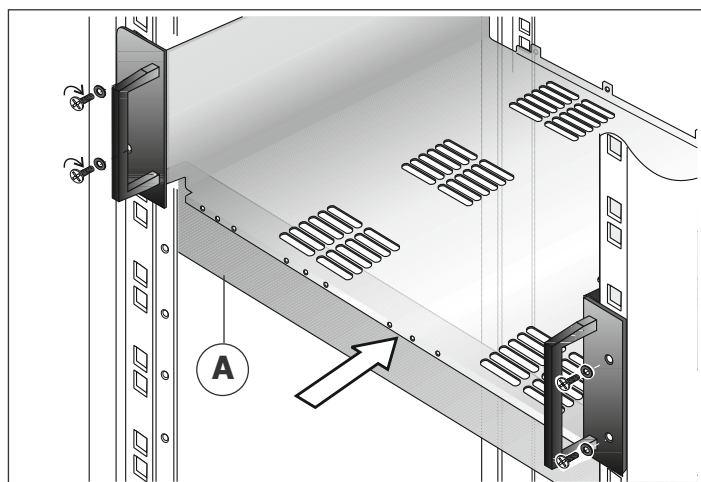

Fig. 3.2.1
- the supporting modules-cage for the amplifiers (see figure 3.2.1) must always be mounted on the supporting brackets provided for this purpose (detail [A]) included in the supply.